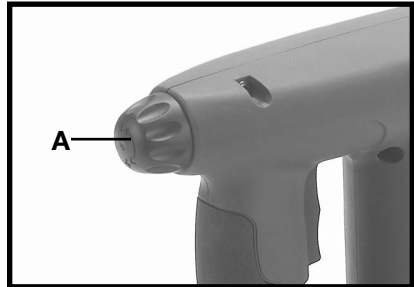
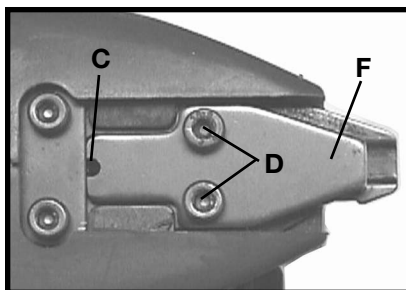

Fig. 10
Fig. 11
The depth to which a fastener is driven is controlled by the depth adjustment knob (A) Fig. 10. The depth of drive is factory adjusted to a nominal setting. Test fire a fastener and check depth. If a change is desired, rotate the adjustment knob (A) Fig. 10. Rotate the knob clockwise, to increase the depth of drive, rotate the knob counterclockwise to decrease the depth of drive. Test fire another fastener and check depth. Repeat as necessary to achieve desired results. The amount of pressure required will vary depending on the size of the fastener and the material being fastened.
2. Remove as much spring tension as possible by turning the depth adjustment knob (A) Fig. 10, counterclockwise.
5. Slowly depress the nailer trigger (B) Fig. 10, to retract the driver blade, but do not let the tool fully cycle. The spotting window (C) Fig. 11, can be used to determine the position of the driver blade. When the front end of the driver blade passes out of view, release the trigger.
6. Remove the two hex screws (D) Fig. 11, and protector plate (F).